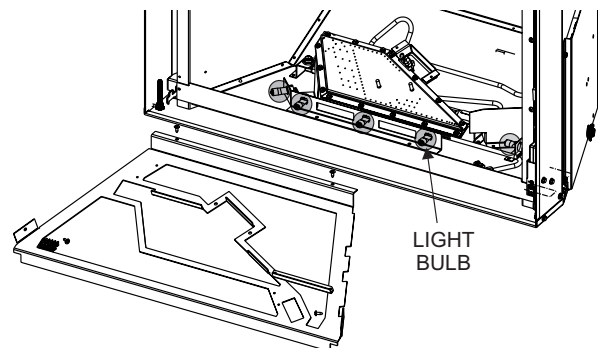

Figure 36
- Burner base (**See Figure 36.**)
2. Remove old light bulb and replace with new one. **See Figure 36.**